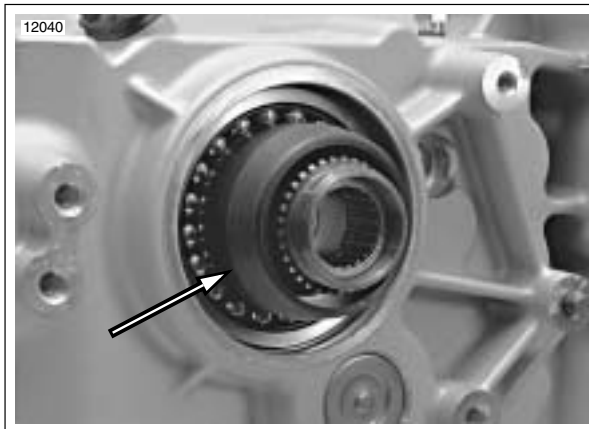

Figure 6-78. Install PILOT (Part No. HD-47856-2) (Typical)
1. See Figure 6-78. From outside of crankcase, install PILOT (Part No. HD-47856-2) over end of main drive gear bearing inner race.